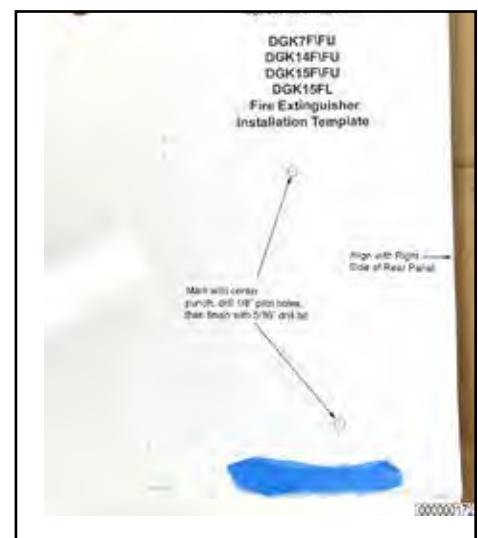

Figure 2
- Step 6: Place template on upper right of rear panel, aligning top and right edges as shown. Secure template to rear panel using masking tape. (Figure 2)